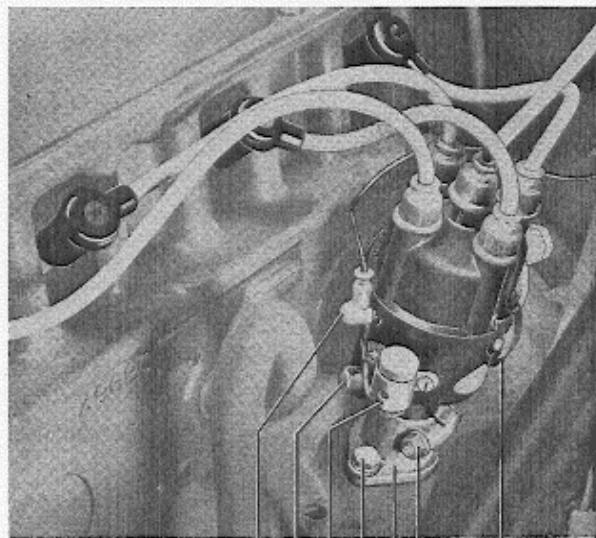

Fig. 56. Distributor fitted. VOLVO 26536
3. Disconnect the primary lead 1, Fig. 56.
5. Unscrew the bolt 6, Fig. 56 and lift up the distributor.